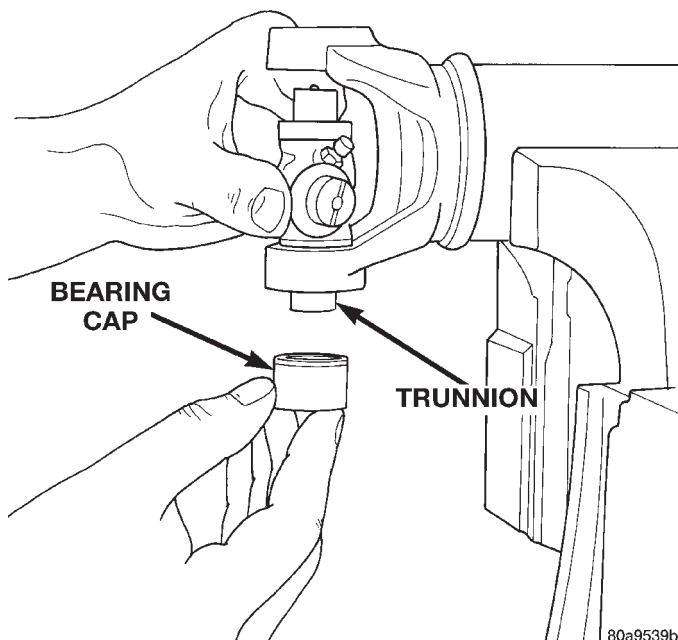

Fig. 18 Install Bearing On Trunnion
(3) Place a bearing cap over the trunnion and align the cap with the yoke bore (Fig. 18). Keep the needle bearings upright in the bearing assembly. A needle bearing lying at the bottom of the cap will prevent proper assembly.